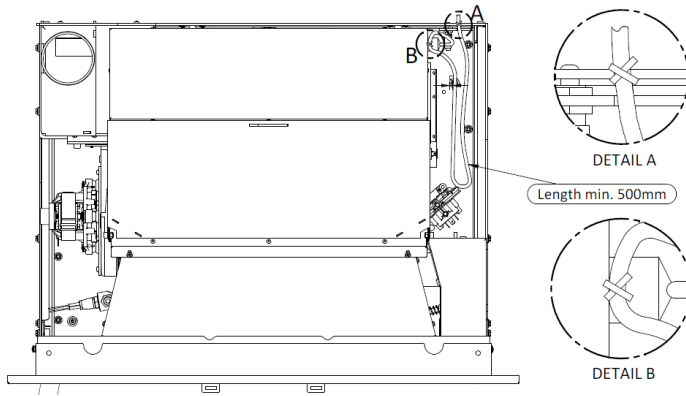

Figure 14 - Electrical connection
- After connecting the power cable to the silo column, it is necessary to attach the cable to the same column and the base, making sure to leave enough cable length, so that the equipment can make the entire route in the rails (500 mm), without the cable being stressed or touching the hot parts (Figure 14).